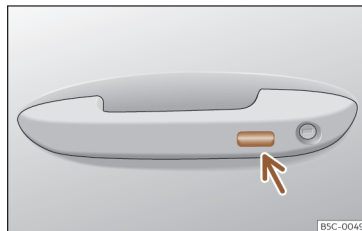

Fig. 94 Door handle: sensor surface.
- **OR** using the Keyless Access system (only locking): Press and hold the locking sensor surface  **Fig. 94** (arrow) on the door handle for several seconds to close the windows and the sunroof. If you release the sensor surface, the closing movement stops.
• Press and hold the locking sensor surface >>> Fig. 94 (arrow) on the door handle to close the sunroof. If you release the sensor surface, the closing movement stops.